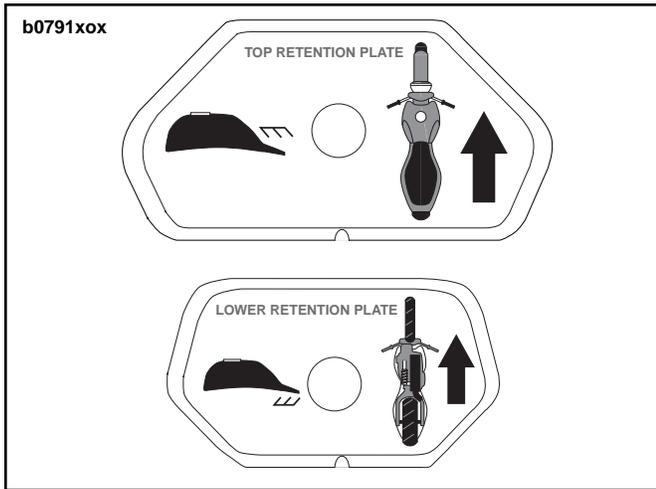

Figure 7. Retention Plate Decals
•See Figure 7. The retention plates have decals on them showing the position and direction that they are to be mounted. Also, they have a V-shaped notch which is to face the rear of the vehicle.